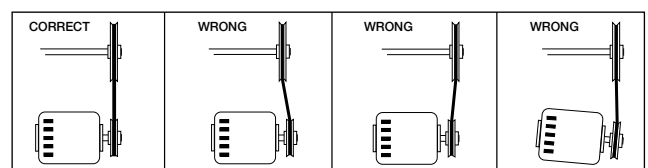

Figure 15
6. If adjustments are made, it is very important to check the pulleys for proper alignment. Misaligned pulleys lead to excessive belt wear, vibration, noise and power loss, see Figure 15.